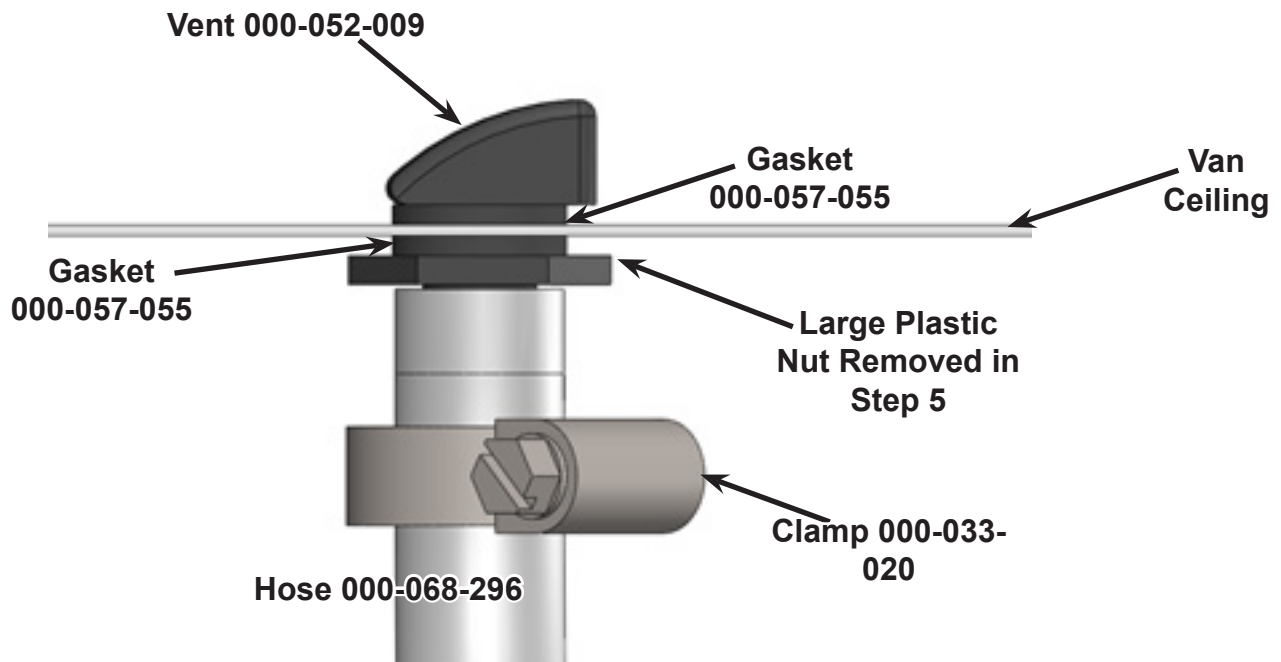

Figure 79. Side View of Filter Vent Assembly
7. Attach the Filter Vent assembly as shown in Figure 79.